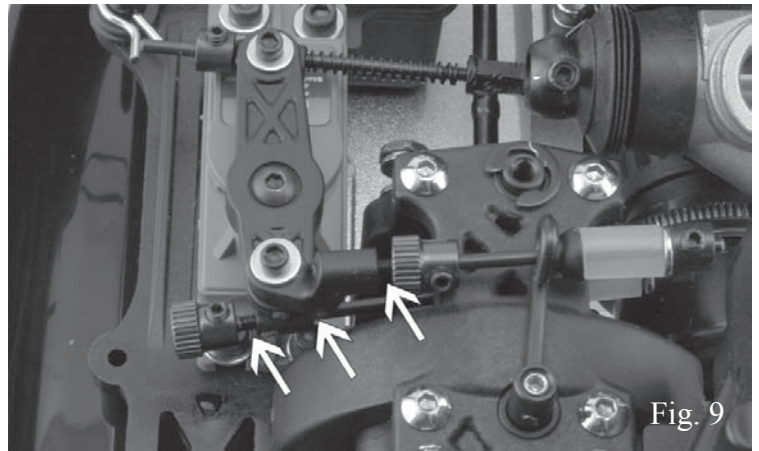

Fig. 9
1. With the throttle in the neutral position, adjust the brake linkage rods as shown. Note the amount of thread showing on each brake rod.(Fig. 9)